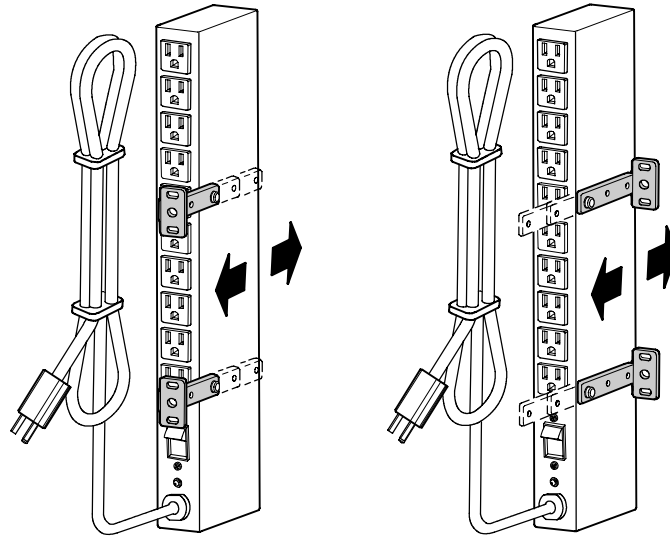

Figure 5. 0U Rack Mounting Bracket Installation Options (1U Models Shown)
2. Align the brackets with the screw holes on the bottom of the ePDU (see location options shown in Figure 5).